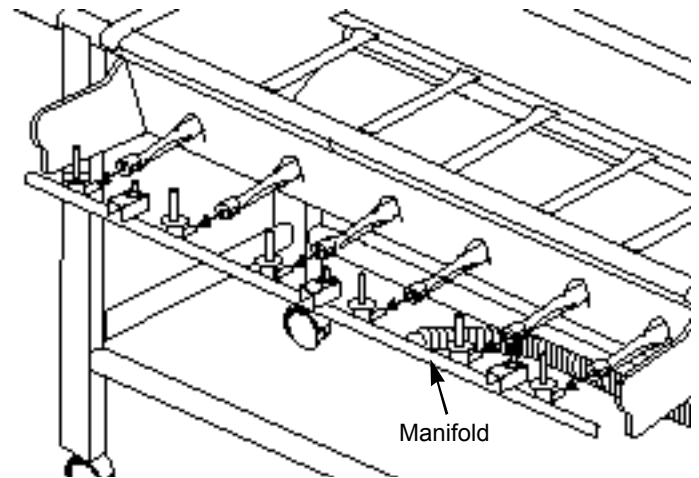

**Figure 11**
10. Unlatch the Spider Stopper Guards and remove. Figure 11.